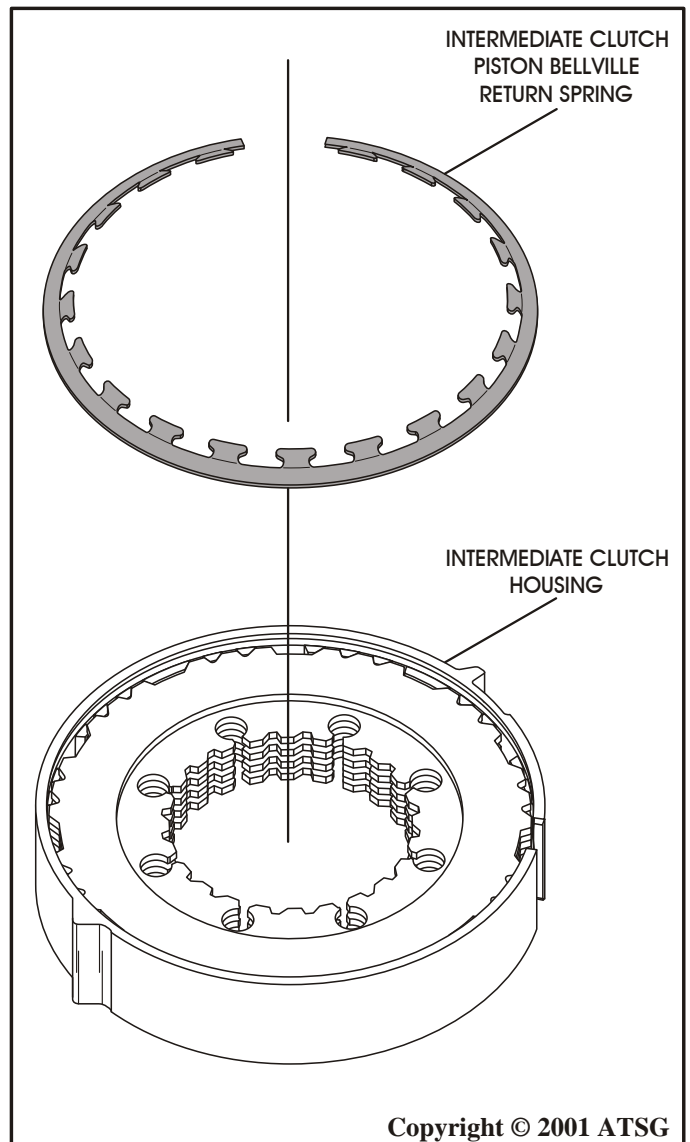

Figure 114
9. Install the intermediate clutch bellville return spring into the groove in intermediate clutch housing, as shown in Figure 114, and ensure that it is fully seated.